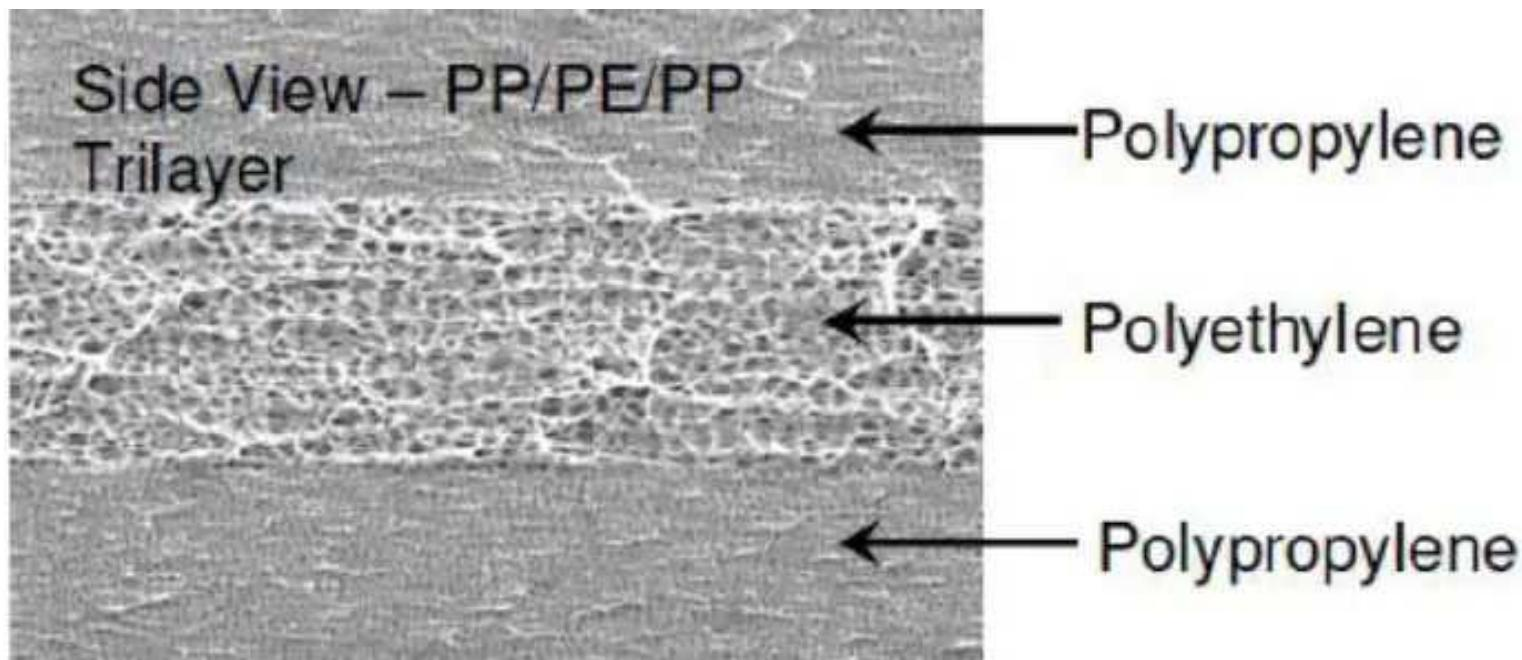

Figure 3-19: Side view of PP/PE/PP trilayer.
Most batteries for mobile phones and tablets have a single polyethylene separator. Since ca. 2000, larger industrial batteries deploy a *trilayered separator* that provides enhanced fuse protection on thermal extremes and on multi-cell configurations. Figure 3-19 illustrates the PP/PE/PP trilayer separator consisting of polyethylene in the middle that is sandwiched by outer polypropylene (PP) layers. While the inner PE layer shuts down at 130°C by closing the pores, the outer PP layers stay solid and do not melt until reaching 155°C (311°F)